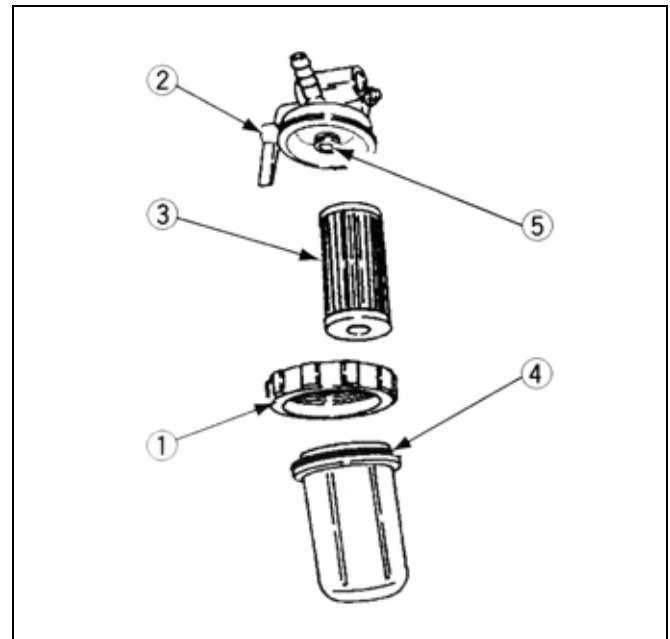

Figure 4-11
2. Remove the sediment bowl by rotating the retaining nut Ref. No. 1. Figure 4-11
3. Open the fuel shutoff valve Ref. No. 2, to drain any remaining water from the tank. Figure 4-11
4. Discard the fuel element Ref. No. 3, and install a new element. Figure 4-11
5. Inspect the O rings Ref. No. 4 & 5 and replace if necessary. Figure 4-11